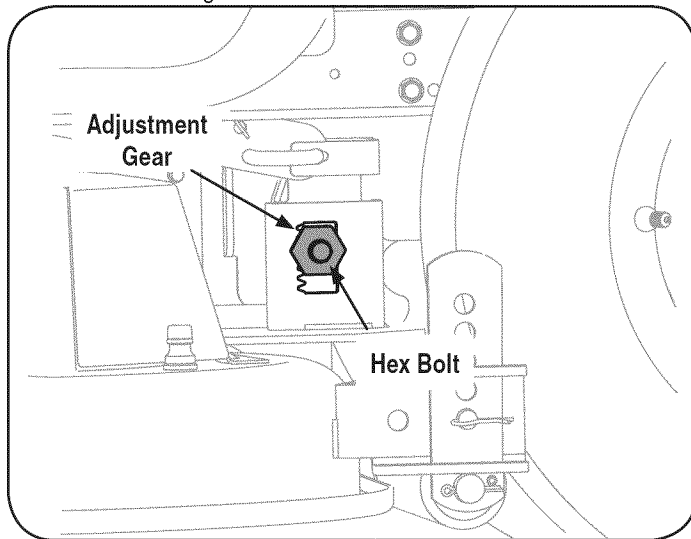

Figure 24
3. Loosen, but do NOT remove, the hex bolt on the left deck hanger bracket. See Figure 24.
4. Using a wrench, raise or lower the left side of the deck by turning the adjustment gear. See Figure 24.